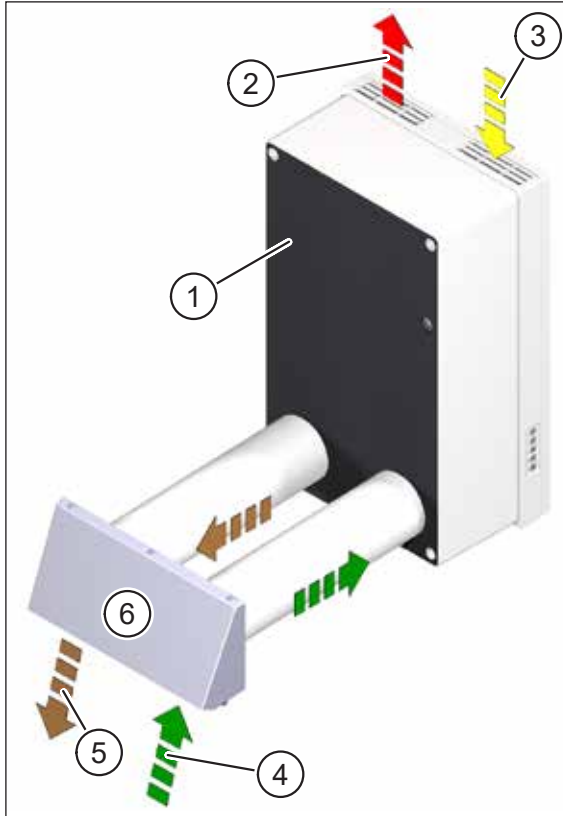
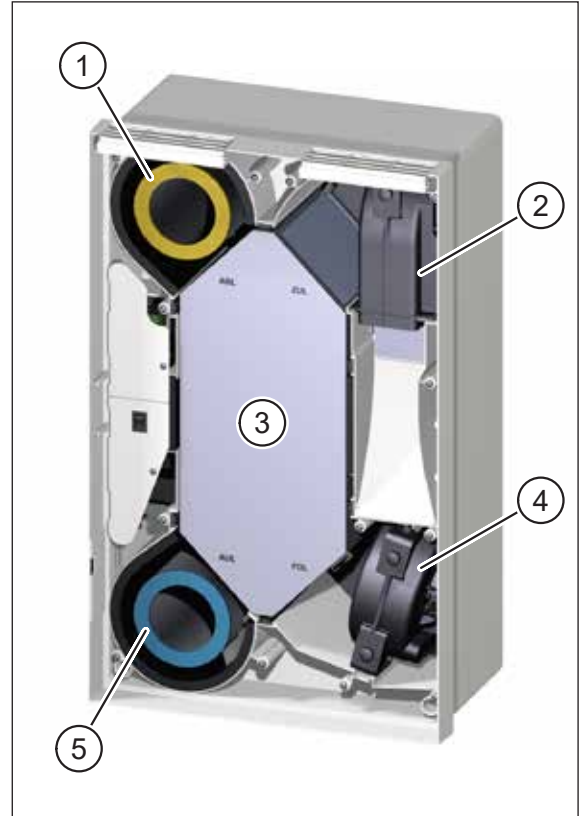

Fig. 8: How the ventilation unit works
Fig. 9: Components for air exchange
Item in Fig. 8	Designation
Item in Fig. 9	Designation
The ventilation unit operates continuously, transports outdoor air and extract air at the same time and guides and filters the outdoor air and extract air separately. The self-regulating fans (which ensure a constant volumetric flow rate) are arranged on the supply air and exhaust air sides. The supply air fan (item 2 in Fig. 9) transports outdoor air (item 4 in Fig. 8) through the outdoor air filter (item 5 in Fig. 9) and cross-counterflow plate heat exchanger (item 3 in Fig. 9) into the interior as supply air (item 2 in Fig. 8). The exhaust air fan (item 4 in Fig. 9) extracts the extract air (item 3 in Fig. 8) from the interior. In the extract air filter (item 1 in Fig. 9), the extract air is cleaned, guided through the cross-counterflow plate heat exchanger and carried outside as exhaust air (item 5 in Fig. 8). The supply air and exhaust air fans each transport the same volume of air. The pressure in the interior remains practically constant.